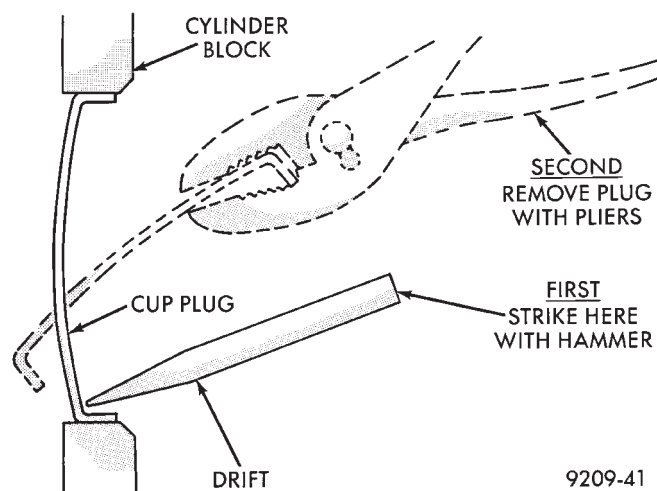

Fig. 46 Core Hole Plug Removal
(1) Using a blunt tool such as a drift or a screwdriver and a hammer, strike the bottom edge of the cup plug (Fig. 46).
(2) With the cup plug rotated, grasp firmly with pliers or other suitable tool and remove plug (Fig. 46).